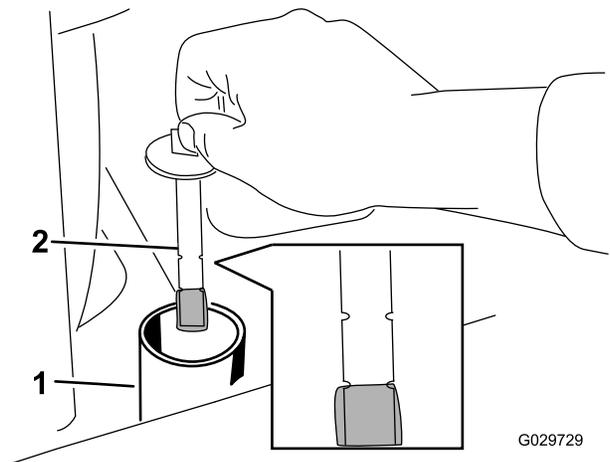

Figure 70
8. Remove the filler-neck cap and check the fluid level on the dipstick (Figure 70).